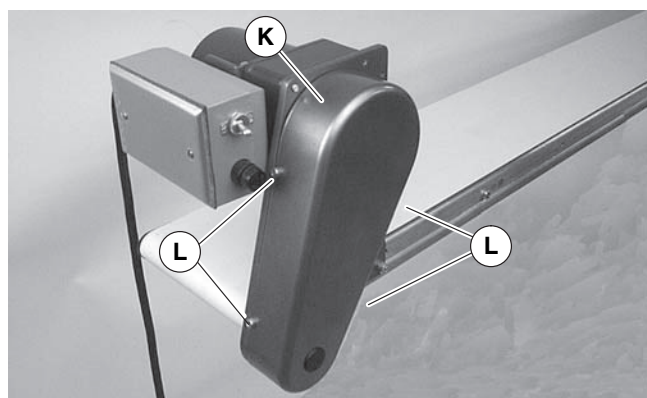

Figure 14
1. Remove four screws (Figure 14, item L) and remove cover (K).
4. Install cover (Figure 14, item K) with four (4) screws (L). Tighten screws to 35 in-lb (4 Nm).
1. Remove four (4) screws (Figure 14, item L) and remove cover (K).
6. Install cover (Figure 14, item K) with four (4) screws (L). Tighten screws to 35 in-lb (4 Nm).
3. Remove four (4) screws (Figure 14, item L) and remove cover (K).